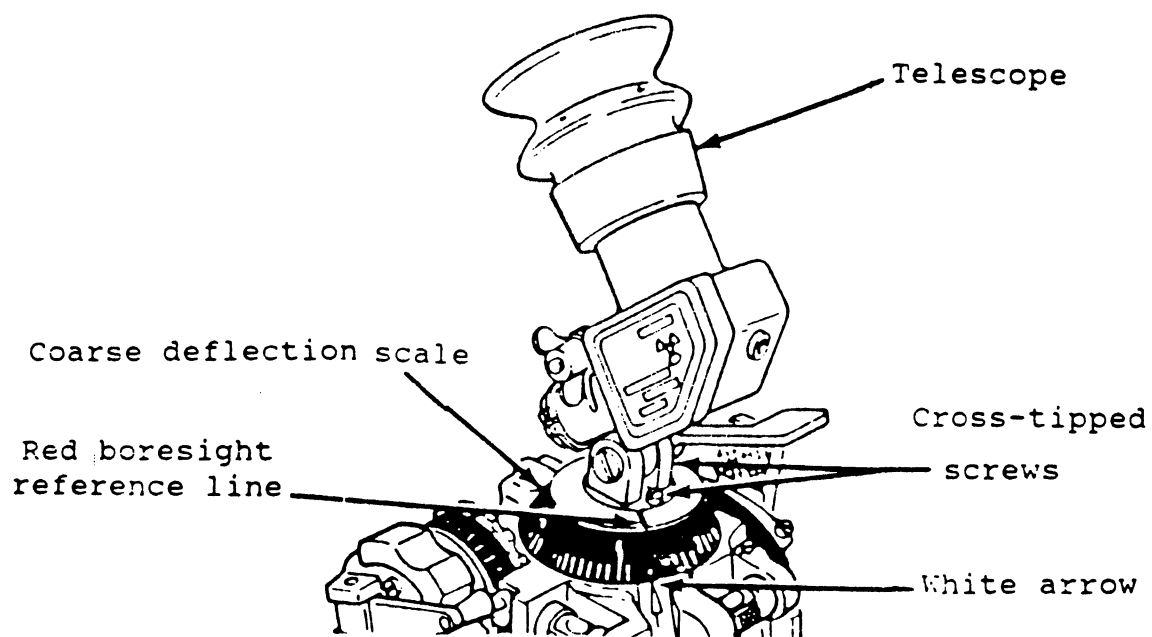
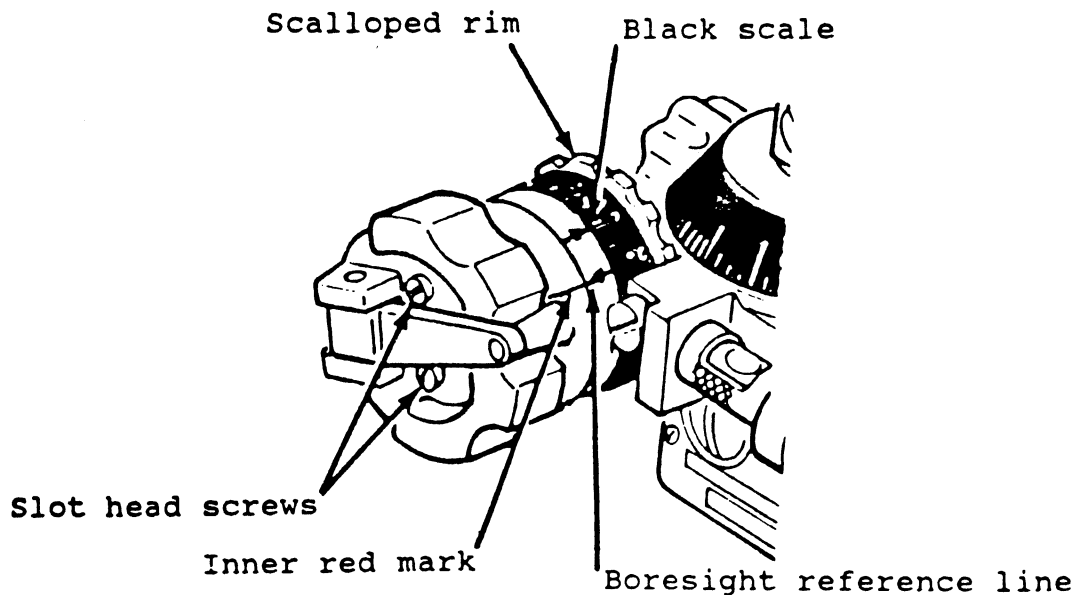

Fig 2-12. Coarse deflection scale and white arrow.
Fig 2-13. Aligning the fine deflection scale.
- (2) Slip the coarse deflection scale to read 0 mils against the white arrow below the scale by pushing down the scale and rotating it. Once set at 0 mils, release the scale so that the internal springs return it to the locked position (fig 2-12).
- (3) Slip the fine deflection scale by pushing the scalloped rim of the fine scale towards the sight body and turning it until the fine scale reads 0 mils against the black scale (fig 2-13). Allow the springs to return it to the locked position.
- (4) Ensure the red boresight reference line on the outer edge of the fine deflection scale is aligned with the inner (fixed) red mark. If it does not, loosen the slot head screws on the outer edge of the knob and align (fig 2-13). Similarly, ensure the red boresight reference above the coarse deflection scale is aligned with 0. Use the two cross-tipped screws for this adjustment. Move the telescope in order to give access to the screws (refer to fig 2-12).
- (5) If any adjustments are made, repeat the steps for boresighting for deflection.